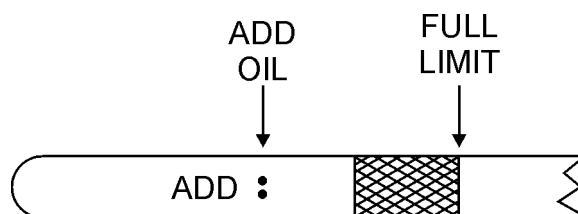

Figure 7. Engine Oil Level
5. Make sure the buggy is level and verify that the oil level is maintained between the two notches (Figure 7) as shown on the dipstick. Reference Table 5 for proper selection of engine oil.